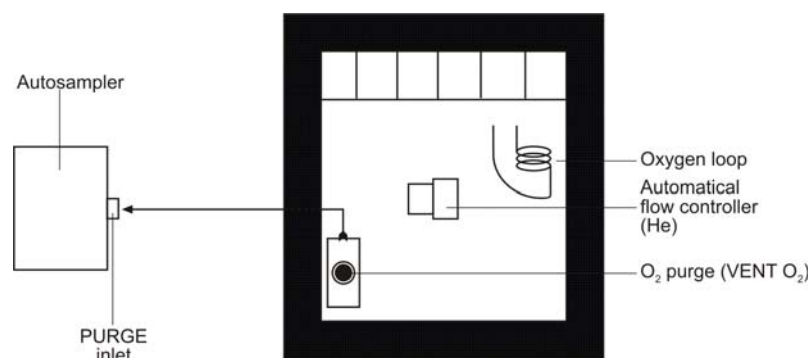

Figure 3-11. Elemental Analyzer 1110 and 2500 - top view
4. Adjust the flow rate to 40-50 mL/min. See Figure 3-11.